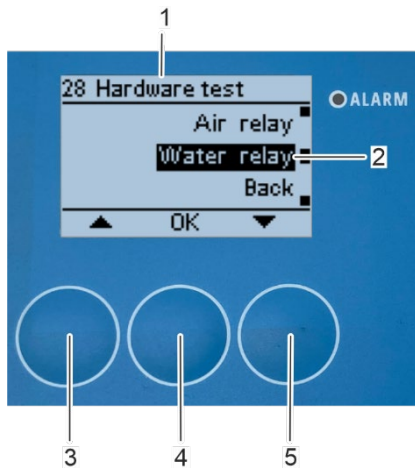

Fig. 151: Open submenu "water relay"
⇒ The "28 Hardware test" submenu (Fig. 151/1) appears on the display again, the water relay closes and water flows out of the high-pressure hot water nozzle.
5. After checking the water relay, open the "Water relay" submenu (Fig. 151/2) again with [OK] (Fig. 151/4).